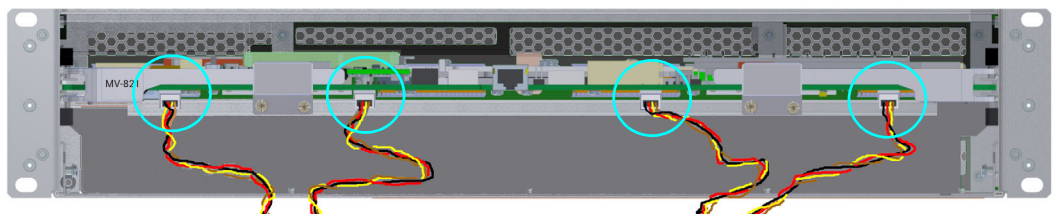

Fig. 2-5: Fan Supply Wires Connected to front of the Main Module
- 1 Check that the fan supply wires are all connected to the front edge of the MV-821 Main Module. See Figure 2-5.